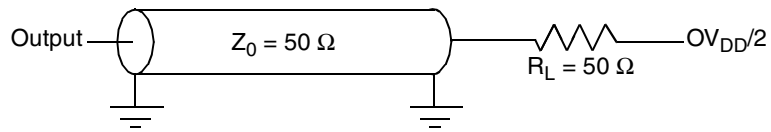
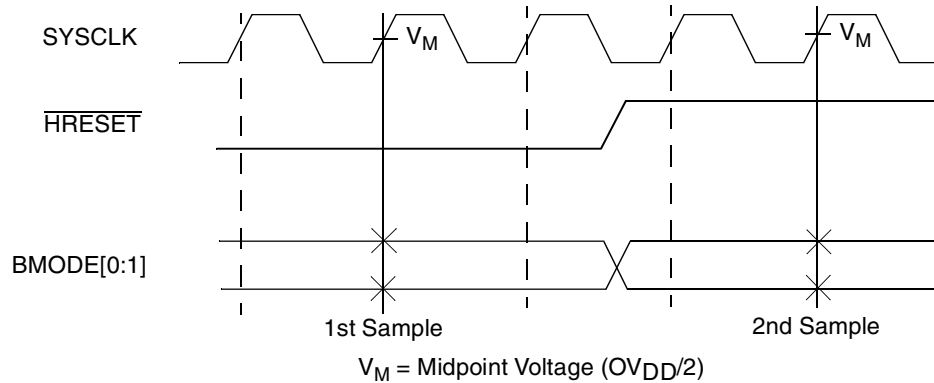

Figure 4. AC Test Load
Figure 5.  $\overline{\text{BMODE}}[0:1]$  Input Sample Timing Diagram
Table 9 provides the processor bus AC timing specifications for the MPC7448 as defined in Figure 4 and Figure 5.
- All input specifications are measured from the midpoint of the signal in question to the midpoint of the rising edge of the input SYSCLK. All output specifications are measured from the midpoint of the rising edge of SYSCLK to the midpoint of the signal in question. All output timings assume a purely resistive 50-Ω load (see Figure 4). Input and output timings are measured at the pin; time-of-flight delays must be added for trace lengths, vias, and connectors in the system.
- The symbology used for timing specifications herein follows the pattern of  $t_{(signal)(state)(reference)(state)}$  for inputs and  $t_{(reference)(state)(signal)(state)}$  for outputs. For example,  $t_{VKH}$  symbolizes the time input signals (I) reach the valid state (V) relative to the SYSCLK reference (K) going to the high (H) state or input setup time. And  $t_{KHOV}$  symbolizes the time from SYSCLK(K) going high (H) until outputs (O) are valid (V) or output valid time. Input hold time can be read as the time that the input signal (I) went invalid (X) with respect to the rising clock edge (KH) (note the position of the reference and its state for inputs) and output hold time can be read as the time from the rising edge (KH) until the output went invalid (OX).
- $\overline{BMODE}[0:1]$  and  $BVSEL[0:1]$  are mode select inputs.  $\overline{BMODE}[0:1]$  are sampled before and after  $\overline{HRESET}$  negation.  $BVSEL[0:1]$  are sampled before  $\overline{HRESET}$  negation. These parameters represent the input setup and hold times for each sample. These values are guaranteed by design and not tested.  $\overline{BMODE}[0:1]$  must remain stable after the second sample;  $BVSEL[0:1]$  must remain stable after the first (and only) sample. See Figure 5 for sample timing.
Figure 4 provides the AC test load for the MPC7448.
Figure 5 provides the  $\overline{\text{BMODE}}[0:1]$  input timing diagram for the MPC7448. These mode select inputs are sampled once before and once after  $\overline{\text{HRESET}}$  negation.